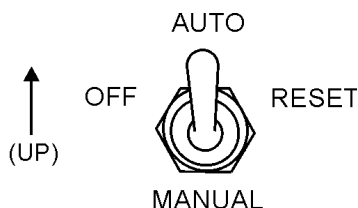

Figure 31. Off/Manual Auto Switch (AUTO)
2. Place the Off/Manual/Auto switch (Figure 31) in the **AUTO** position (up).